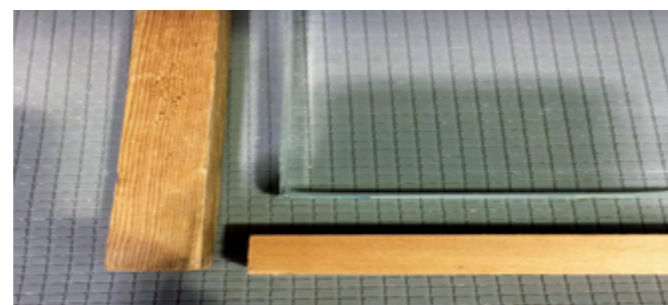

FIG 3 • Laminate framing
**7.** Re-usable silicone vacuum bags, such as the ones that come with non-autoclave oven systems, generally come with a mesh material to facilitate de-airing. It may be necessary to add additional breather material around the laminate to obtain maximum de-airing. Laminates may also be "framed" to aid in reduction of edge pinching (See figures 3 and 4).